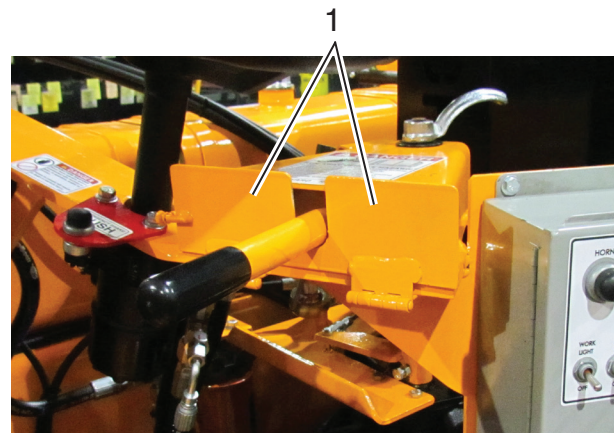

Figure 4-23. Drive Box
2. Lower neutral position safety door after start-up. See **Figure 4-23**.